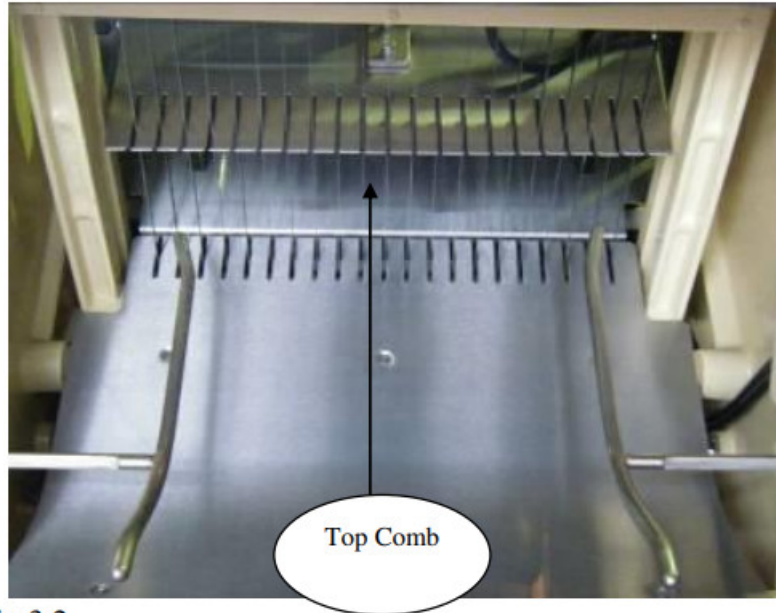

Fig 3.2
- Adjust the top comb to rest on top of the loaf and the two in feed guides to guide the loaves down the shute and through the slicing blades. Fig 3.2